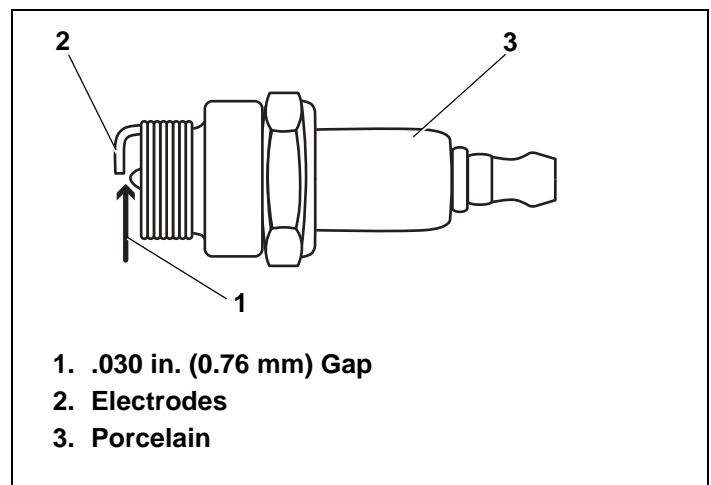

Figure 47. Resistor Spark Plug
4. Check electrode gap with wire feeler gauge and set gap to—.030 in. (0.76 mm) if necessary. See Figure 47.